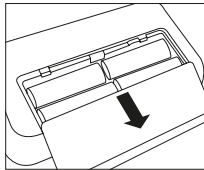

Fig. 1
- Open the battery cover on the bottom of the monitor (see Fig. 1). Insert the batteries (see Chapter 13 'Technical data'). Ensure correct polarity ('+' and '-') when inserting batteries. Close the battery lid. The monitor switches automatically to the date/time function, and when used for the first time the display shows the number "31" for the day and "12" for the month. The date set is thus the 31st December. Set date and time as described below.